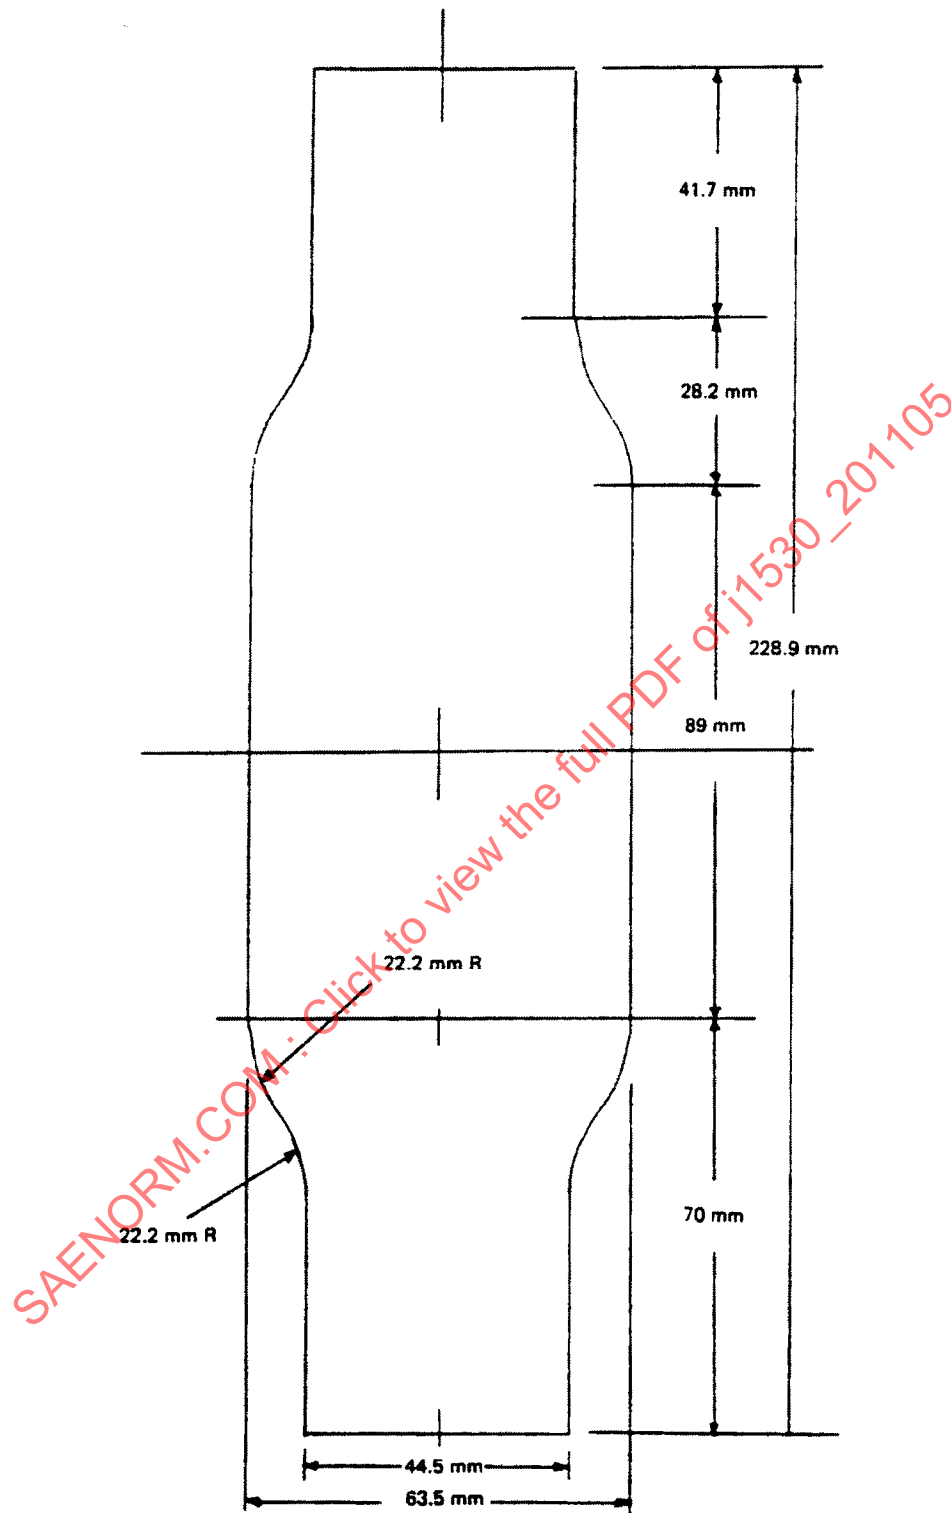

FIGURE 1 - TEST SPECIMEN TEMPLATE
5.2.1 Test specimens are prepared to the template (Figure 1) dimension in both the machine and cross machine directions. The long dimensions are cut parallel to the warp yarns for warp wise (machine direction) abrasion and parallel to the filling yarns for filling-wise (cross machine direction) abrasion.